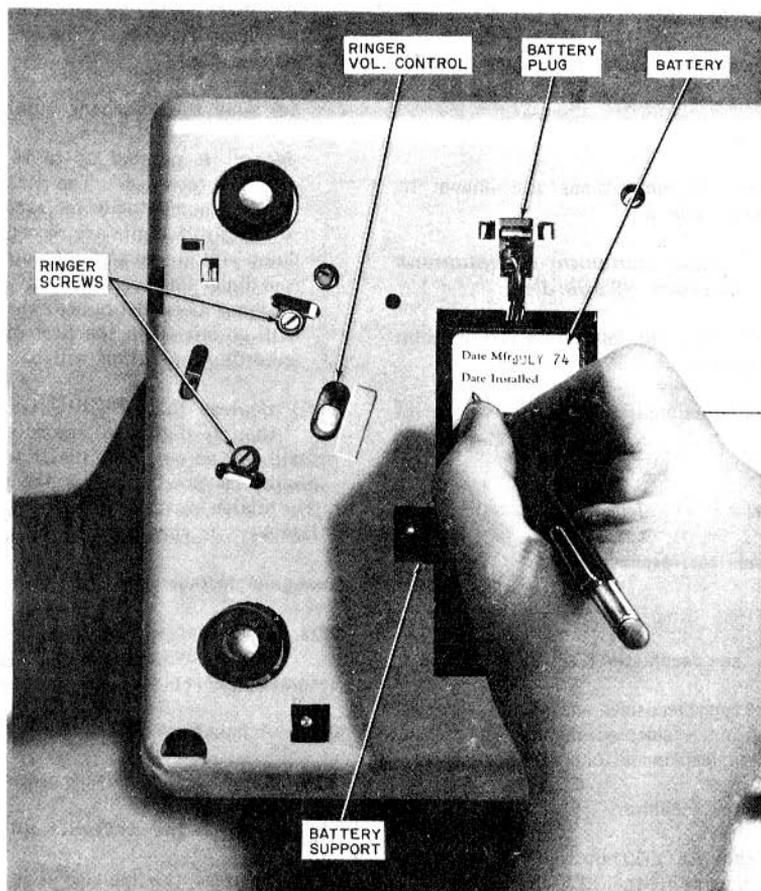

Fig. 6—872A1M Telephone Set, Bottom View
- (c) Under the telephone set (Fig. 6):
6.03 The KS-20390L4 or L2 battery has an expected life of about 4 years. It can be replaced without loss of memory provided commercial ac power to the set is continuously maintained. To replace the battery, proceed as follows (Fig. 6).